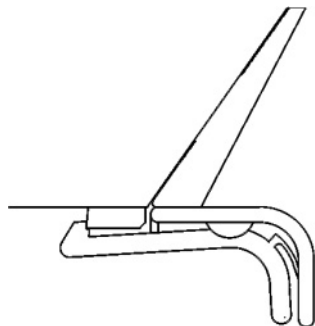
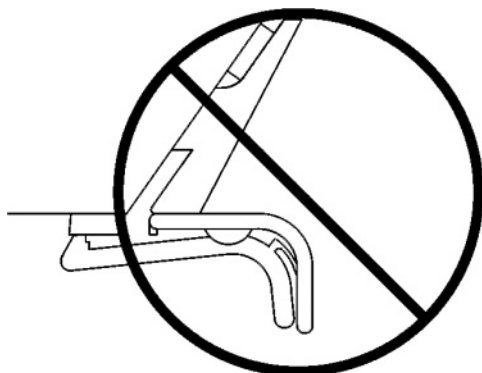

Figure 3-5 Head holder latched
Figure 3-6 Head holder is NOT latched
- 3.) Latch the head holder onto the first step of the plastic latch mechanism (see Figure 3-5 and Figure 3-6). It is not necessary to latch the head holder onto the second step.